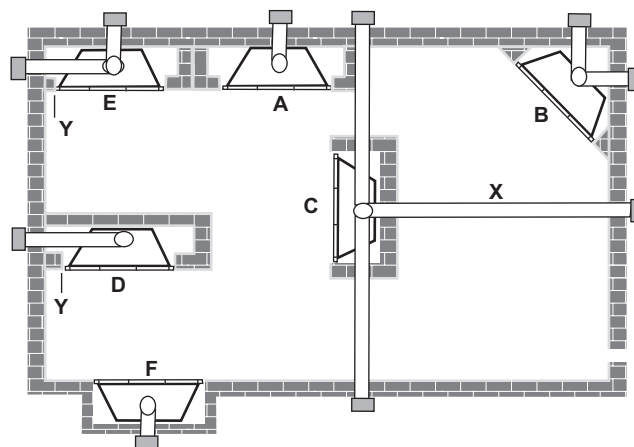

Figure 4 - Locating Gas Fireplace
- This fireplace may be installed along a wall, across a corner, or use an exterior chase. See Figure 4 for suggested locations.